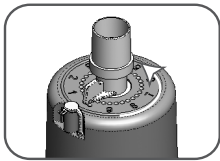

fig. 3
- Set the device to the minimum position by rotating the PAP Adjustment lever to the full anticlockwise position (fig. 3).